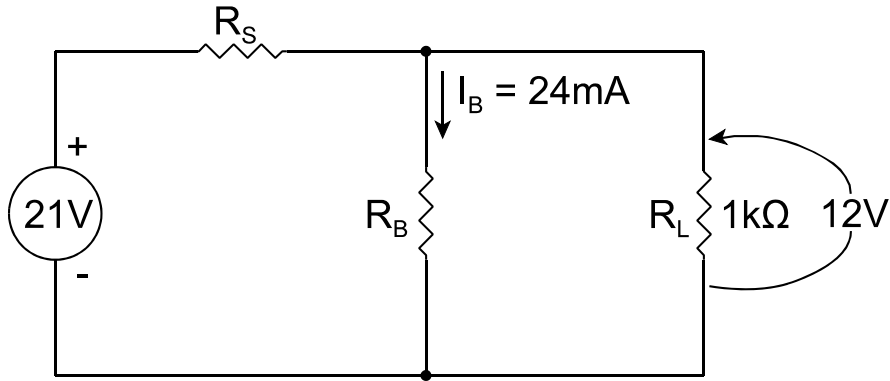

Figure 7-2
- B1. Design a voltage divider to provide 12V to a 1k Ω resistor from a 21V supply with a bleeder current of 24mA as shown by Figure 7-2. Put your design values in Table 7-3.
- B2. Construct the circuit shown in Figure 7-2.